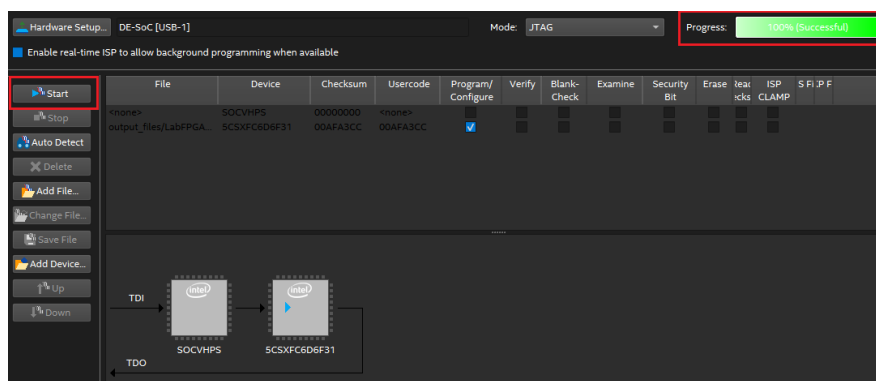

Figure 18. Start programmer
35. Finally, click **Start** to load the design onto the FPGA. Make sure the progress bar reaches 100% and displays Successful, as shown in Figure 18.